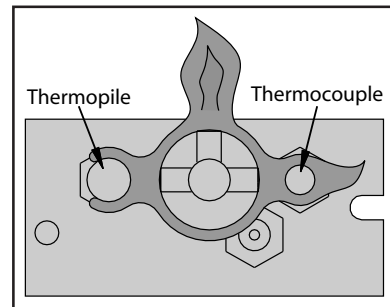
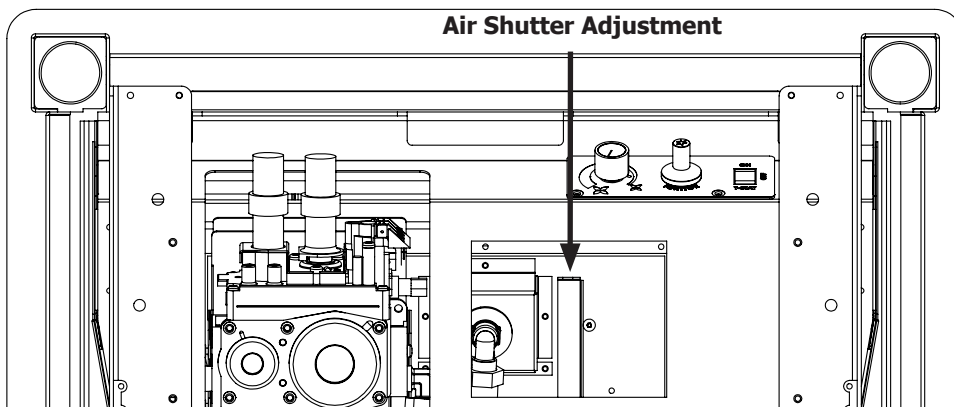
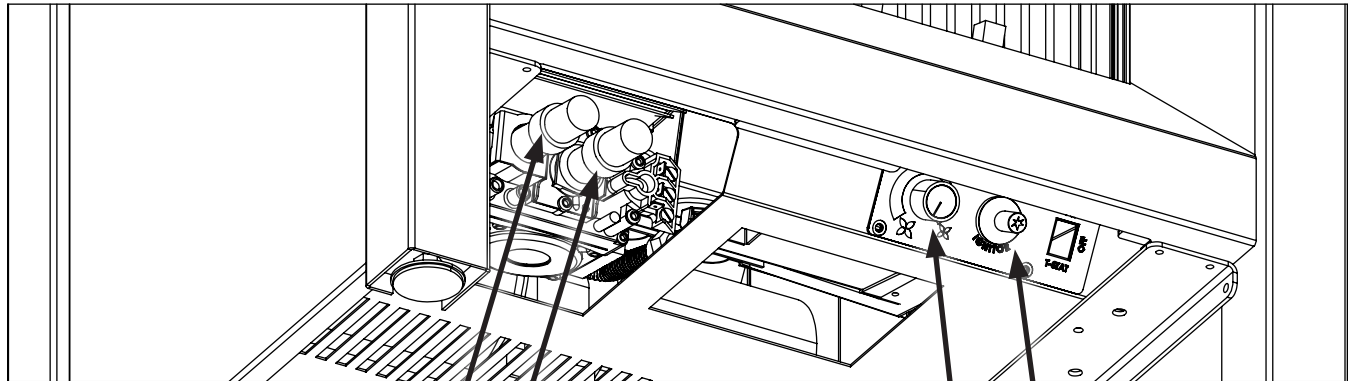

Figure 3. Pilot Flame
Figure 4. Air shutter adjustment lever.
Figure 5. Control Panel
1. Turn off the gas to the fireplace. **If not recently done, remove the glass and let the unit air out for at least five (5) minutes to clear out any gas.** Turn on gas to the appliance.
2. Start the pilot by pressing the gas control knob (Figure 5) and turning it to PILOT (counter clockwise). You will feel the knob depress in PILOT. While holding the gas control knob in, press the piezo ignitor several times until the pilot light starts. Hold the gas control knob in for 30 seconds, the pilot should now stay lit with out depressing it. Check that the pilot has fully engulfed the thermocouple assembly (see Figure 3).
The air shutter adjustment lever is located on the right hand side of the venturi box (see Figure 4) . To adjust the air shutter reach through the rectangle shown in the cabinet bottom. The air shutter allows the amount of air coming into the fireplace to be adjusted in order to accommodate different climates and venting arrangements. Start the pilot and then the burner. Make sure the pilot flame is burning normally and none of the burner ports are plugged. Let the fireplace burn for roughly fifteen minutes and then examine the flames, compare the flames to Figure 41.
The S20 controls (Figure 5) is located at the front of the unit (Figure 4). For easier access to controls the face can be removed. To light the burner correctly follow the steps below:
The blower will come on only when the fireplace is up to temperature (approximately 15 minutes). The speed of the fan can be changed by turning the fan control knob. The blower will continue to operate automatically after the unit has been shut off (approximately 25 minutes). To turn the blower off, turn the fan control knob COUNTER CLOCKWISE until it "clicks" off (Figure 5).